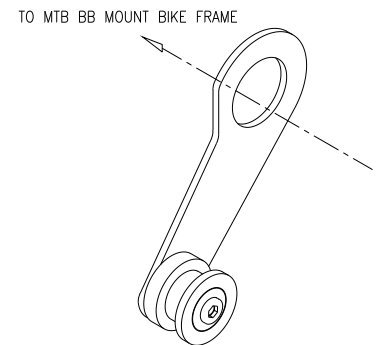

Figure 4.
3. Mount the **STINGER**(**B** Figure 1.) loosely to the **ISCG** tabs using the provided flathead bolts (**H** Figure 4).